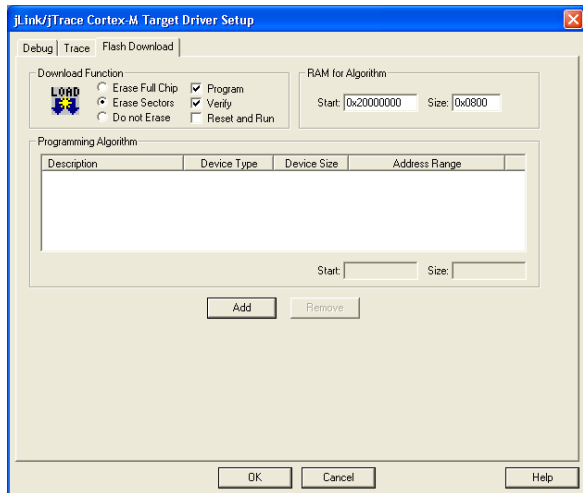

Figure 30. J-Link/J-Trace Cortex Setup
5. Select **Settings** to display the dialog box shown in Figure 30.